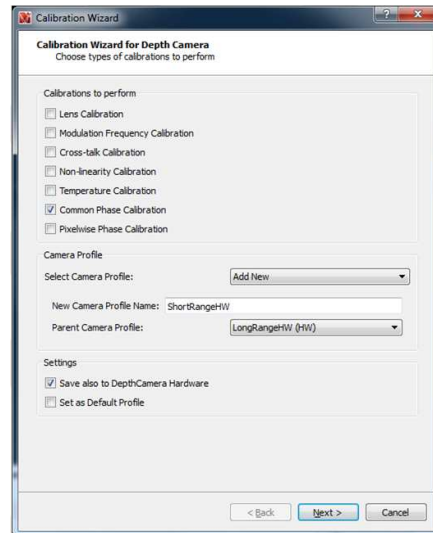

Figure 38. ShortRangeHW Profile Settings
With the current operating profile set at **Short Range** (**Settings** → **Camera Profiles** → **Short Range**), bring up the Calibration Wizard (**Settings** → **Edit Profiles**), configure the checkboxes as in Figure 38. The profile to save to is “ShortRangeHW”. This profile inherits from the **LongRangeHW (HW)** profile, and has only the **Common Phase Calibration** included, because **ShortRangeHW** and **ShortRangeHW (HW)** will inherit the results of other calibration types from the **LongRangeHW (HW)** profile. Click **Next** and proceed with the Common Phase Calibration described in Section 4.6. When this step is completed, two more profiles, **ShortRangeHW** and **ShortRangeHW (HW)** will be created.